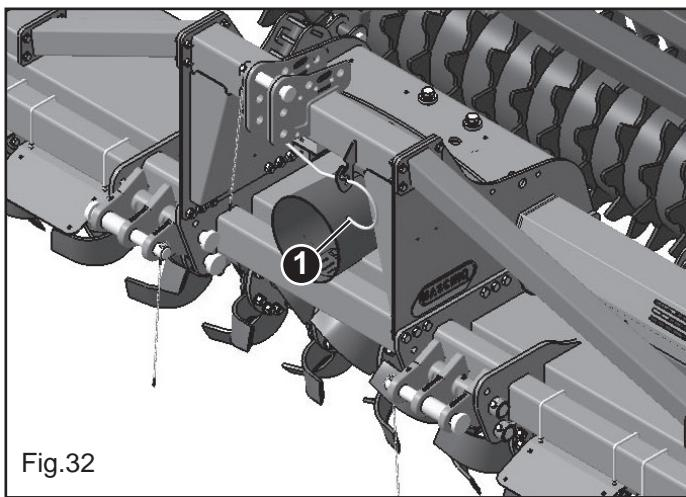

Fig.32
- 3) Hold the cardan shaft with a suitable support (1 Fig.32).